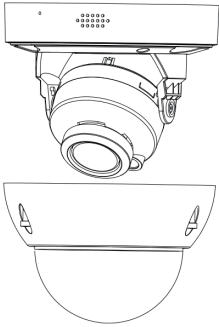

Figure 2-8 Complete the installation
- 5. Complete the installation: reinstall the front cover, tighten the fixing screws on the front cover and install it, and finally tear off the protective film of the transparent cover to complete the installation, as shown in Figure 2-8.